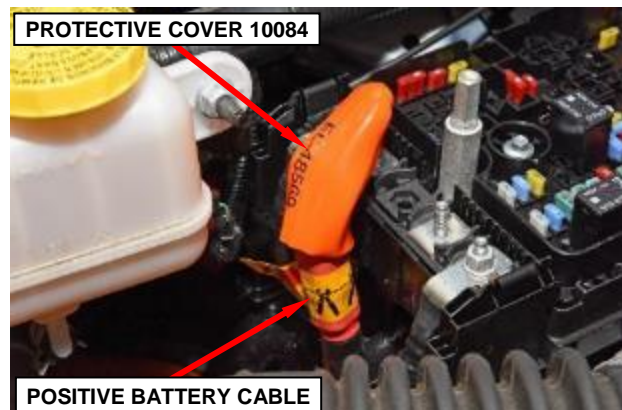

Figure 7 – Cover Cable Terminal
14. Isolate the positive battery cable terminal with protective cover 10084 (2035110082 equivalent) (Figure 7).